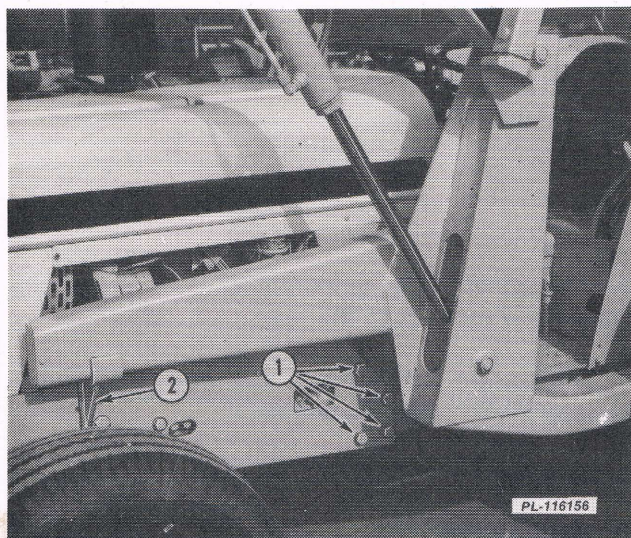

Fig. 3
15. If equipped with a loader, remove the front mounting brackets (2). Remove the cap screws (1) securing the rear of the frame rails to the clutch housing. See Fig. 3.